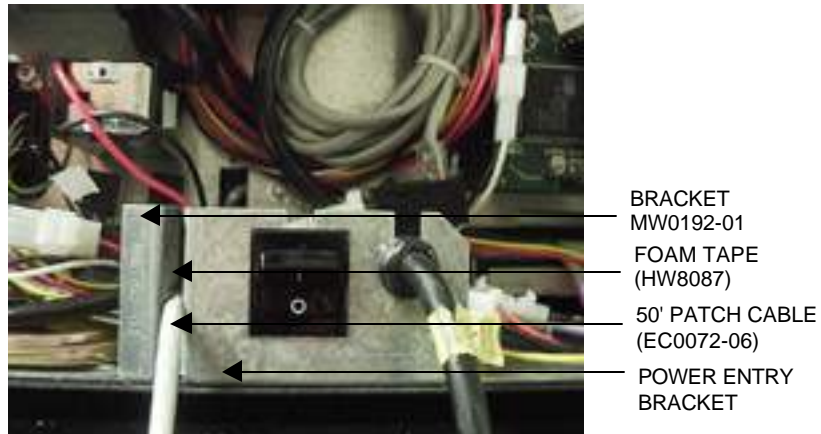

FIGURE 14 - FULL MAXX™ WITH COMPLETE INSTALLATION
14. Remove the bracket (MW0192-01) next to the power entry bracket and note the orientation of the bracket (see Figure 14).
15. Adhere the foam tape (HW8087) to the notched surface that adjoins the power entry bracket (being careful not to cover the notches). See Figure 14.
19. Route the 50' cable next to the power entry assembly and connect it to the coupler inside the game. Use the thumbnuts to secure the 50' cable between the bracket with the foam tape and the power entry bracket. See Figures 14 and 15.